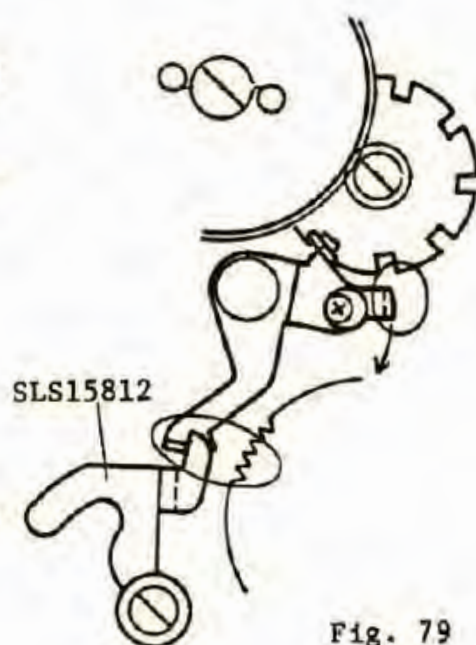

Fig. 79
1) When opening the back cover, both ends of the SLS15842 Stop lever are detached from the SLS1541T1 Dividing device and from the SLS14811 F.clutch wheel by the SLS15812 Zero reset lever moving as shown in Fig. 79.